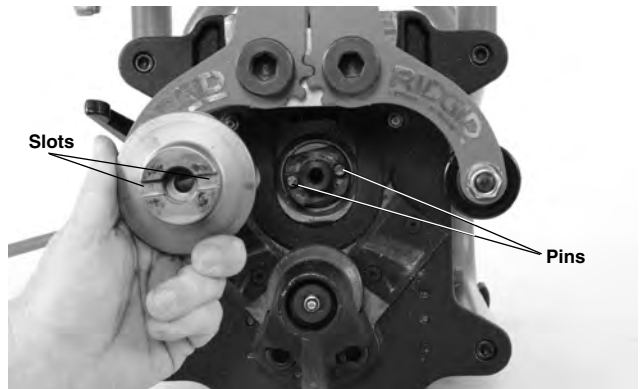

Figure 25B – Replacing Cutter Heads
- When replacing the cutter head, make sure it sits squarely on the spindle, with the slots in the cutter head engaging the drive pins (Figure 25B). Securely tighten socket head cap screw using the hex wrench and spanner wrench supplied.